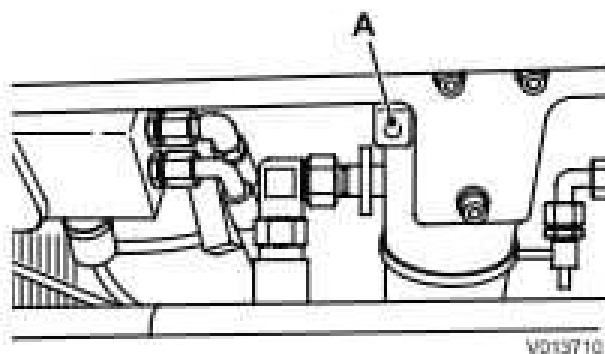

Fig 6.
- 3 Pull down on lever **A** to release the engine cover. → Fig 6. \(D 3-31\).